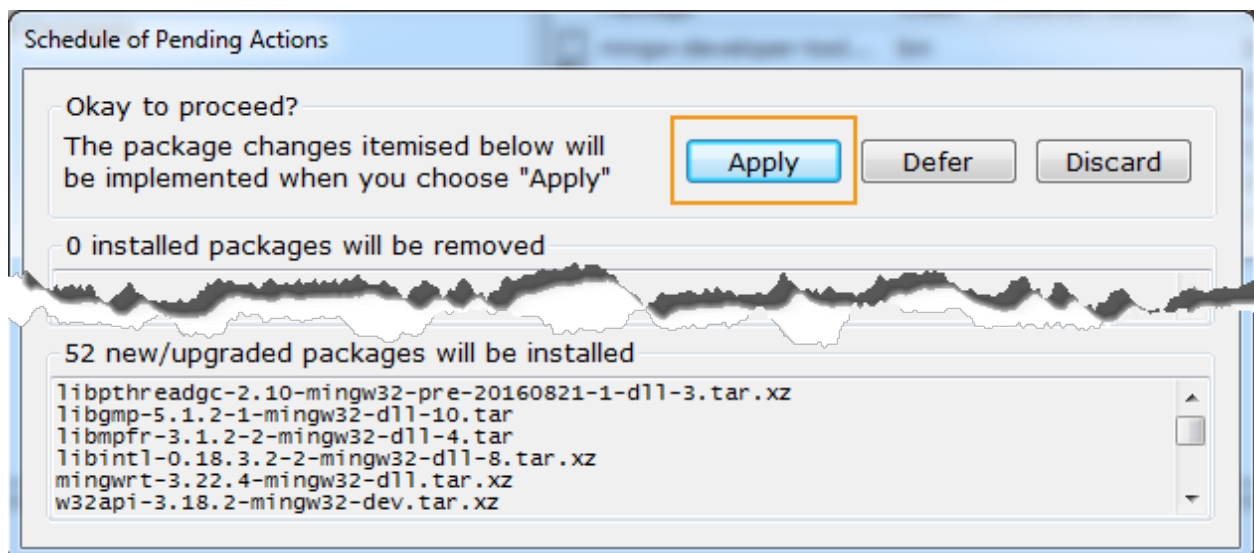

Figure 6. Schedule of pending actions
| Figure 6. Schedule of pending actions | 6 |
- 7) Click **Apply** on the pop-up dialog window (see Figure 6).